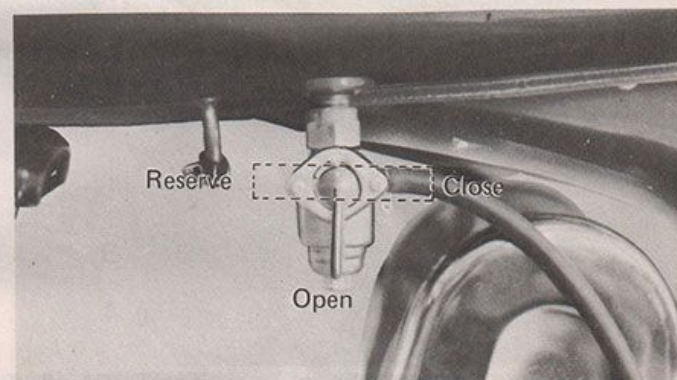

Fig. 2
a. Starting the engine (See Fig. 2 page 14)